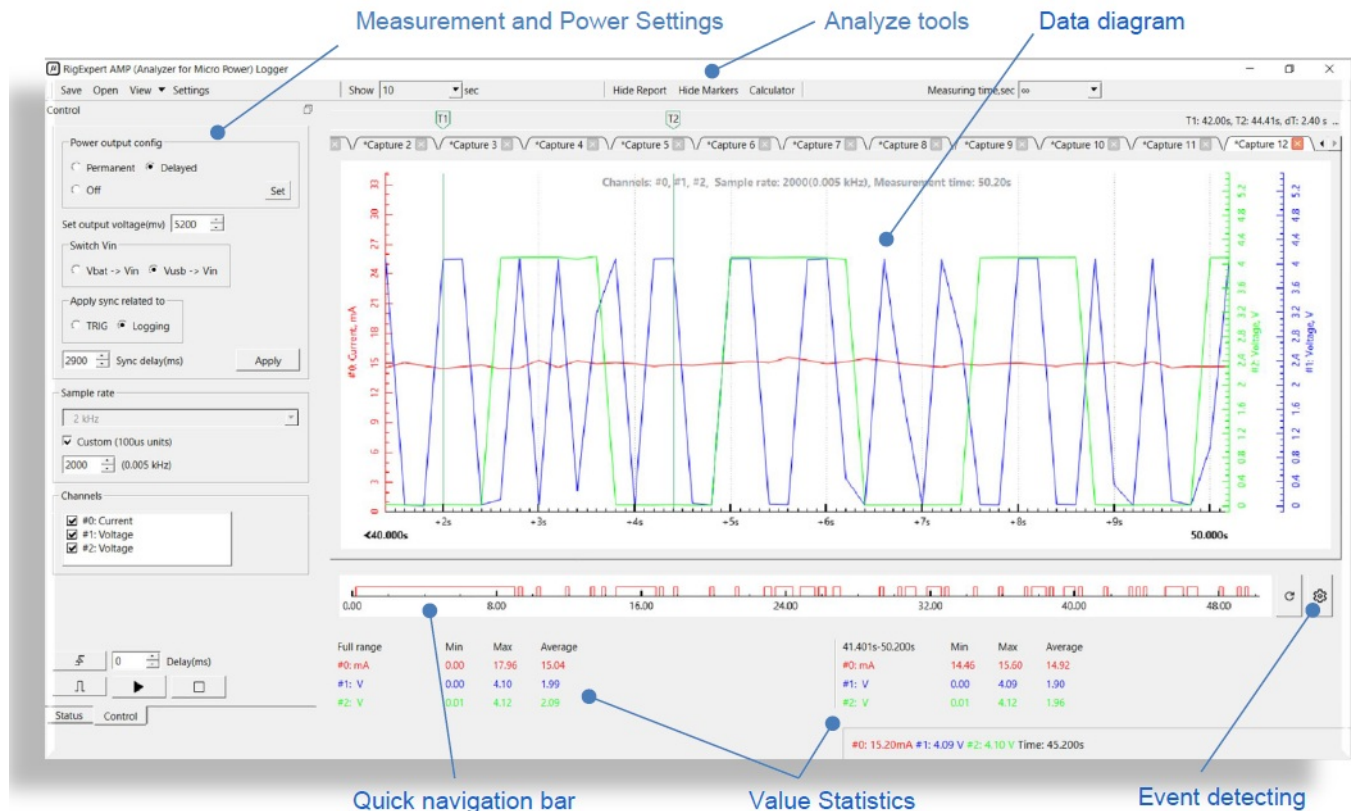

FIGURE 4.2: MAIN WINDOW
- Launch the SW REAMP Logger and check the main window (see Fig.4.2).